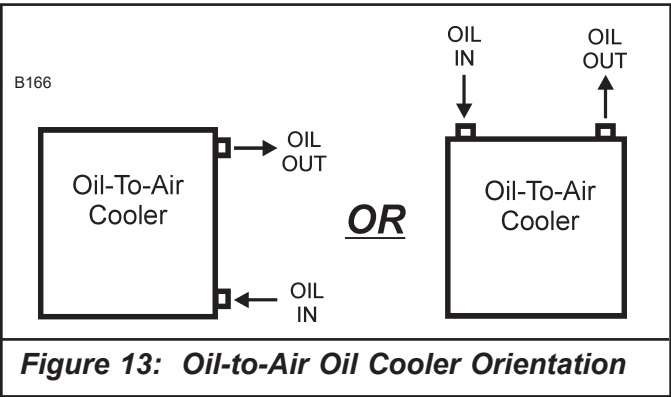

Figure 13: Oil-to-Air Oil Cooler Orientation
- For maximum performance, oil-to-air coolers must be oriented such that air is easily purged and the core is always full of oil. Figure 13 illustrates recommended orientations for oil-to-air coolers.
- When the cooler is mounted so that the ports are located on the side of the cooler, oil should be directed in at the bottom and out at the top. Refer to the left view of Figure 13. This assures that air is purged from the cooler.
- In cases where an oil-to-air cooler is mounted so that the ports are not located on the side, the ports should be mounted at the top of the cooler, as shown in the right view of Figure 13.